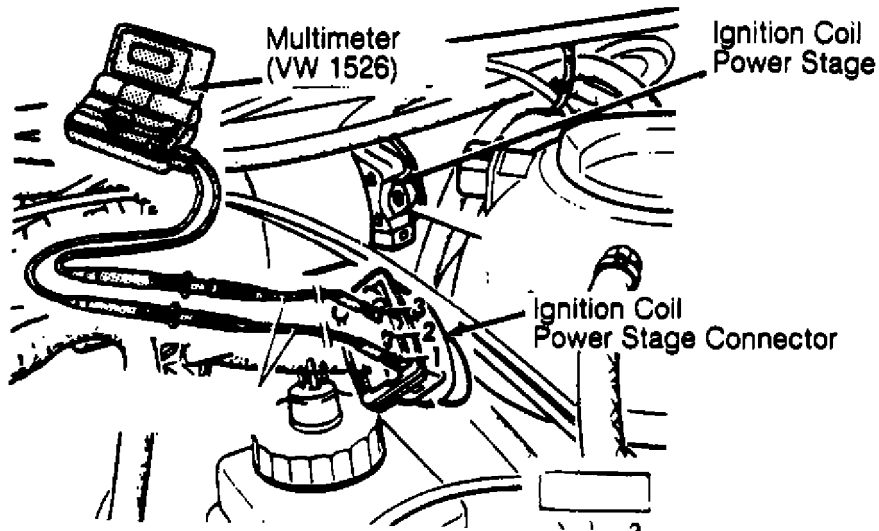

Fig. 5: Testing Ignition Coil Power Stage (Typical)
1) With ignition off, disconnect coil power stage harness connector. Connect a voltmeter to terminals No. 1 and No. 3. See Fig. 5.